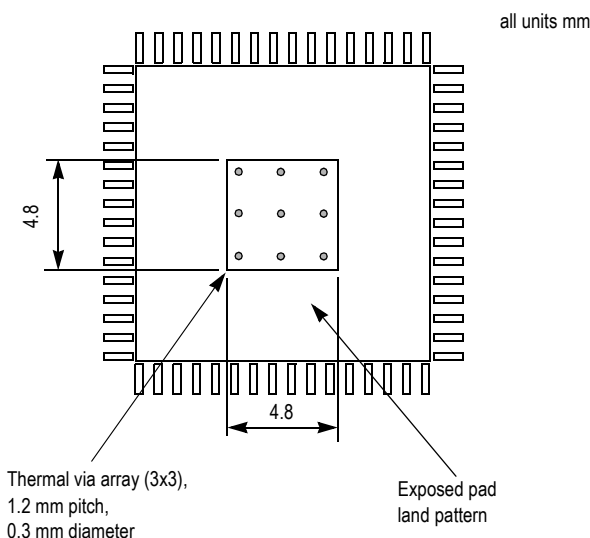

Figure 6. Recommended thermal land pattern
The MC100ES6220 uses a thermally enhanced exposed pad (EP) 52 lead LQFP package. The package is molded so that the lead frame is exposed at the surface of the package bottom side. The exposed metal pad will provide the low thermal impedance that supports the power consumption of the MC100ES6220 high-speed bipolar integrated circuit and eases the power management task for the system design. A thermal land pattern on the printed circuit board and thermal vias are recommended in order to take advantage of the enhanced thermal capabilities of the MC100ES6220. Direct soldering of the exposed pad to the thermal land will provide an efficient thermal path. In multilayer board designs, thermal vias thermally connect the exposed pad to internal copper planes. Number of vias, spacing, via diameters and land pattern design depend on the application and the amount of heat to be removed from the package. A nine thermal via array, arranged in a 3 x 3 array and using a 1.2 mm pitch in the center of the thermal land is a requirement for MC100ES6220 applications on multi-layer boards. The recommended thermal land design comprises a 3 x 3 thermal via array as shown in Figure 6, providing an efficient heat removal path.